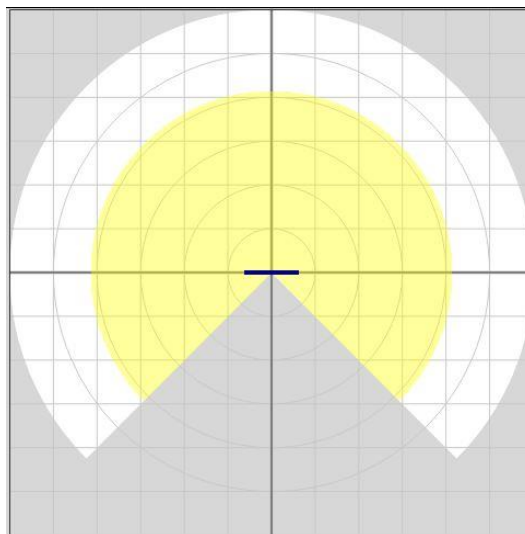

Figure 4.2.1.2.2 Default position of dependent offset bar
- You can delete the offset value of the point by right-clicking when the offset bar is selected, or press delete or the backspace key on the keyboard. The offset bar will be displayed in the default position of the coordinate origin as shown in figure 4.2.1.2.2.